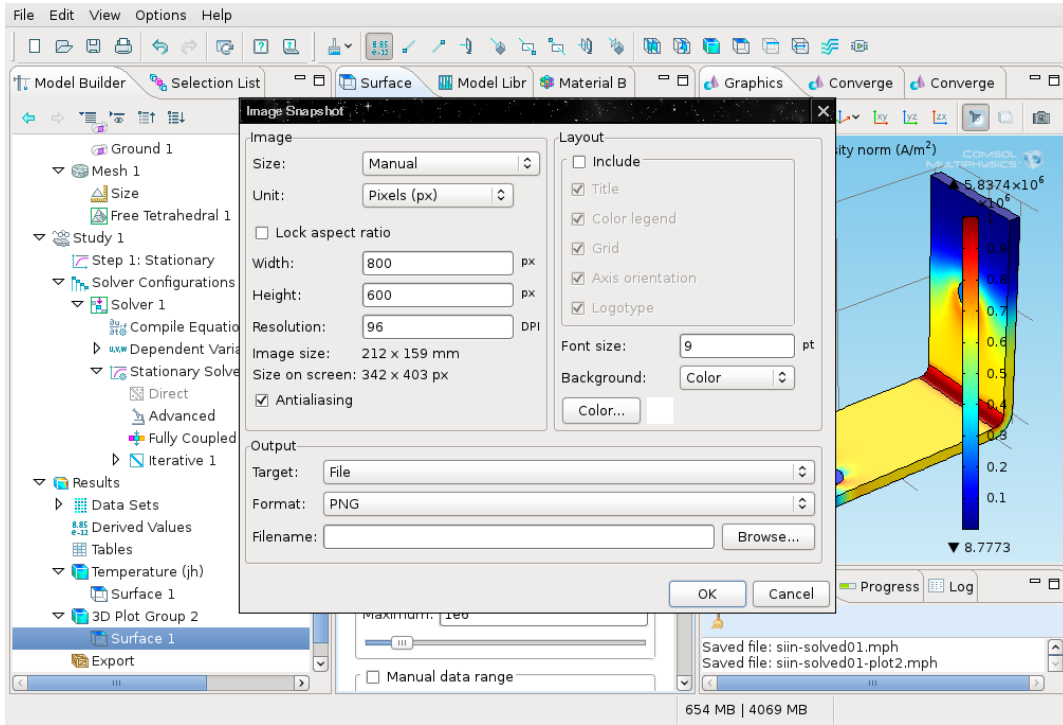

Figure 40: Saving the snapshot.
- 1 Click the **Image Snapshot** button, what generates the snapshot of the rendering window (Fig. 40).